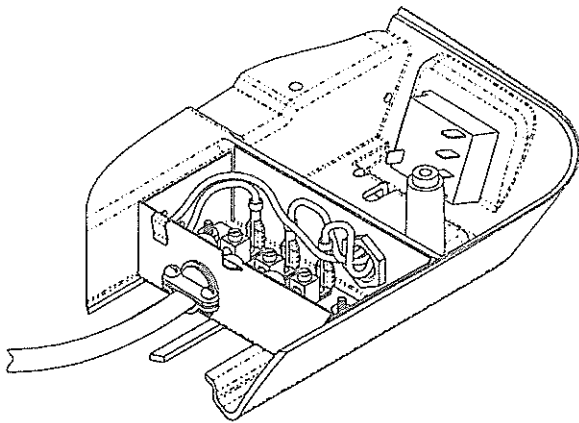

FIGURE 9
- F. Insert the supply wiring through the cable clamp and into the field wiring box so that 4 - 6" of supply conductor is inside the box. Secure the cable clamp over the supply wire sheath so that no movement is possible (See Figure 9).
- G. Connect the supply power conductors to the "A" and "N" lugs on the terminal board. **IMPORTANT -** If power is from one "Hot" and one "Neutral" conductor, connect the neutral to "N". Connect the ground wire to the "E" lug on the terminal board (See Figure 9).